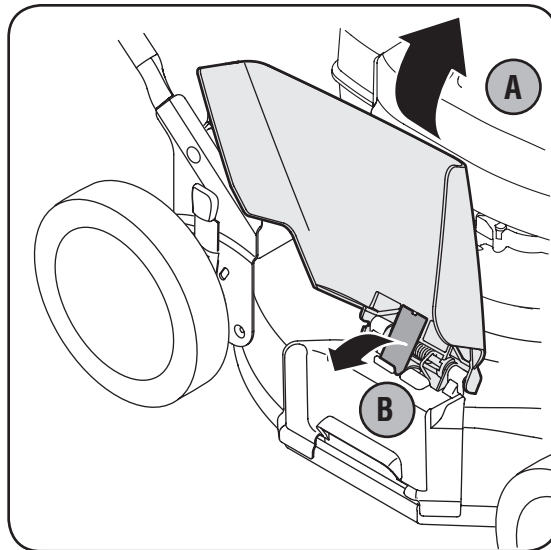

Figure 3-1
1. The chute deflector on your mower may be held in an upright position by a block for shipping purposes only. This shipping block must be removed and discarded before the mower is put into operation. See Figure 3-1.